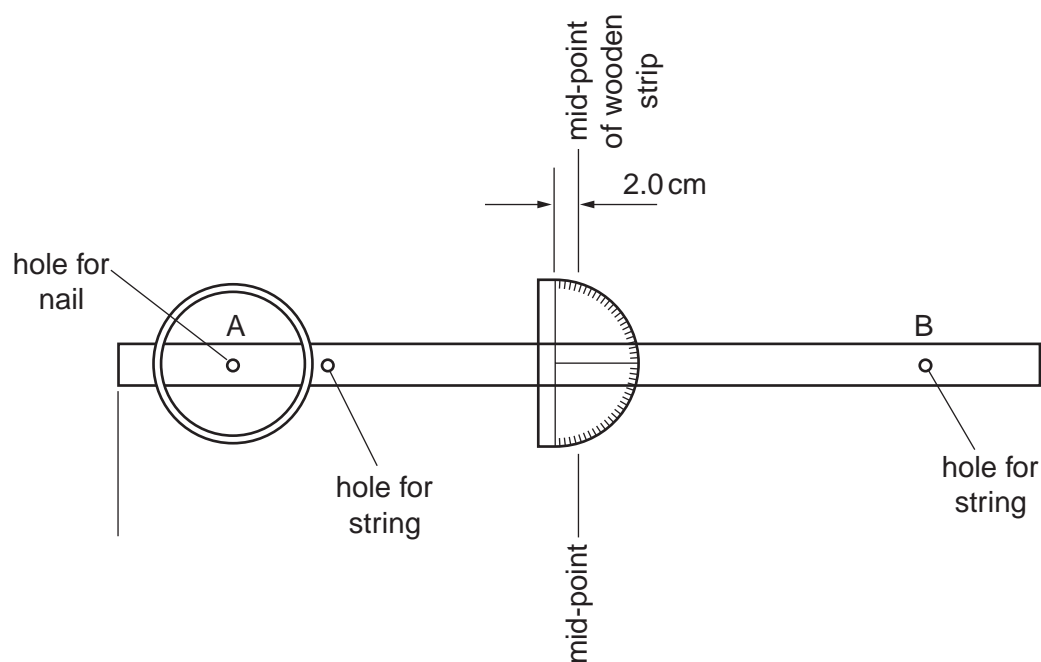

Fig. 1.2
- Referring to Fig. 1.2, mark position A on the wooden strip at the centre of the tube and drill a hole just large enough for the strip to pivot freely on the nail. It is important that the centre of this hole is within 1 mm of the axis of the tube.
- Again referring to Fig. 1.2, mark position B such that A and B are equidistant from the respective ends of the strip. Drill a hole at B just large enough for the string to pass through. Drill another hole, the same size as B, close to the tube, as shown.
- Again referring to Fig. 1.2, attach the protractor to the strip as shown, using Sellotape. The origin of the protractor should be 2 cm from the middle of the strip, towards the tube.